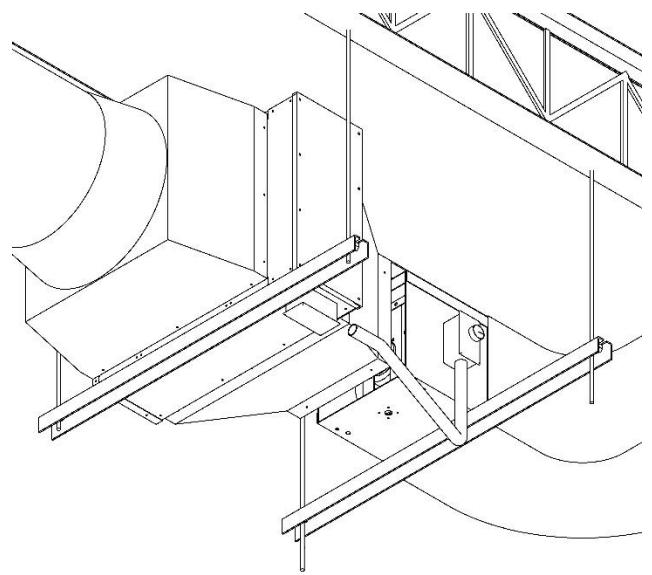

Figure 17
4.) Pull motor housing out of transition. See Figure 17.